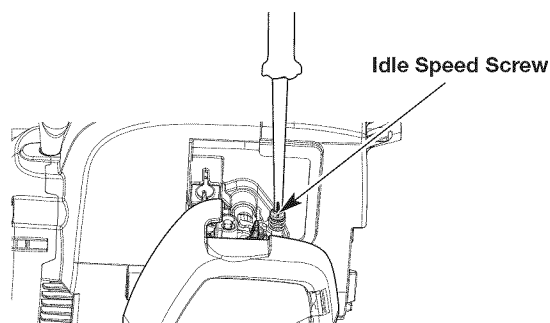

Fig. 18
2. Release the throttle control and let the engine idle. If the engine stops, use a small Phillips screwdriver to turn the idle speed screw clockwise, 1/8 of a turn at a time (as needed) until the engine idles smoothly (Fig. 18).
3. If the engine is idling too quickly, turn the idle speed screw counterclockwise, 1/8 of a turn at a time (as needed) to reduce the idle speed (Fig. 18).